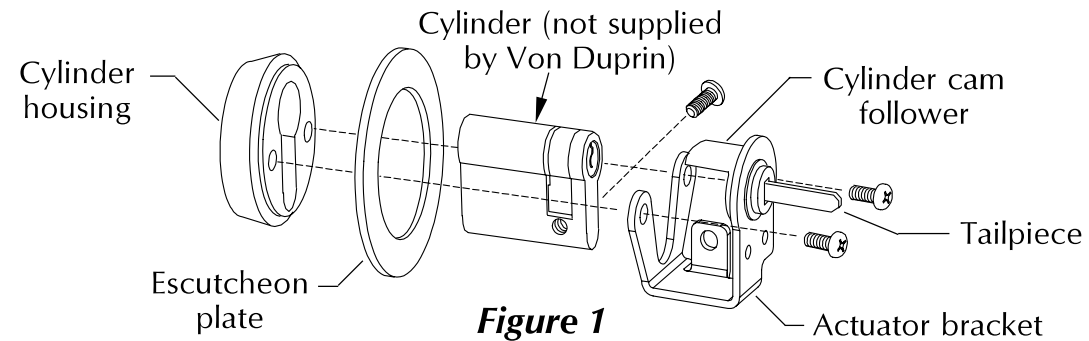

Figure 1
3. Assemble component parts (Figure 1).